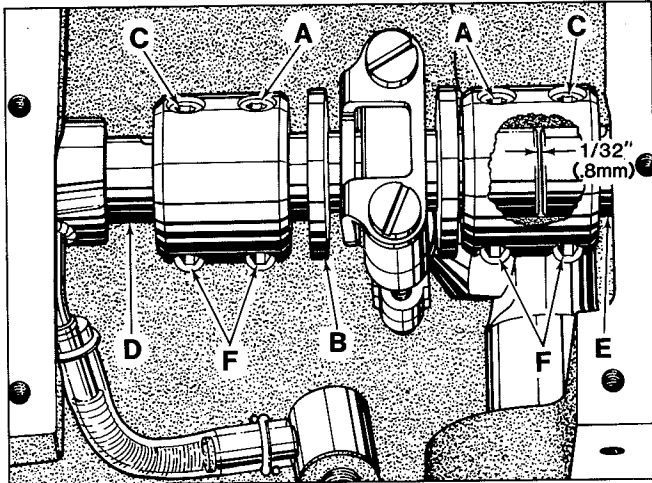
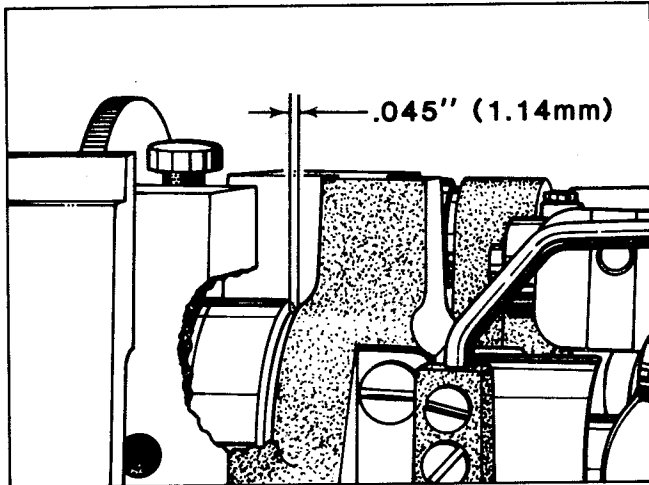

Fig. 22
Fig. 23
As viewed looking down from rear of machine, spot screws (A, Fig. 22) in the couplings must align with the spots in the looper drive crank (B) and set screws (C) must align with the flats on crankshaft (D) and mainshaft (E). Mainshaft must be positioned laterally with .045 inch (1.14mm) clearance between the right side of its head and the bed casting as shown in Fig. 23.
Looper drive crank (B, Fig. 22) must be positioned laterally with 1/32 inch (.8mm) clearance between it and mainshaft (E) as shown in Fig.22. Once these settings are made, it is very important that the couplings are tightened in the following sequence for best performance.